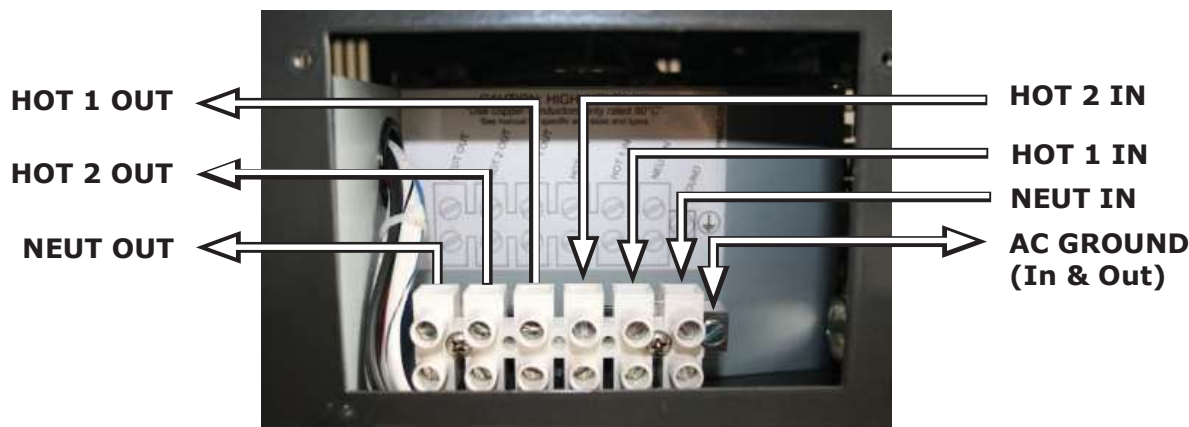

Figure 2-8, AC Terminal Block
The ME2012, ME2512, and ME3112 models have a six-pole AC terminal block and one AC ground terminal to connect the inverter's AC input and output wiring. This terminal block (see Figure 2-8) allows a service/distribution panel (main panel) to be wired to the inverter's input, and also allows a dedicated panel (sub-panel) between the inverter's output wiring and the AC loads. To access and view the AC terminal block and ground terminal, remove the two Phillips screws holding the AC wiring access cover plate (see Figure 1-3, Item 15).
1. Remove the two Phillips screws on the AC access cover (Figure 1-3, Item 15) to access the internal AC terminal block (Figure 2-8).
AC Side – Where the AC output from the inverter is connected to an AC load center, there should be an equipment grounding conductor connected between the inverter case and the grounding point in the AC load center. The AC equipment grounding conductor is sized per Table 2-4, and is connected to the inverter's AC equipment grounding terminal as shown in Figure 2-8.